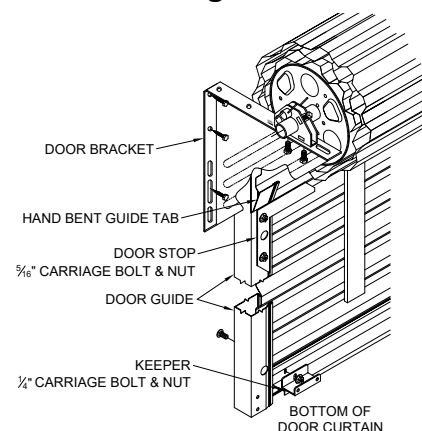

Figure 16.
8.3 Attach the two keepers to the bottom interior edge of the door using the installed 1/4" carriage bolt and whiz nut. (Figure 16)
8.4 Tighten door stops installed in paragraph 7.2 making certain track bolts are seated in guides. (Figure 16)